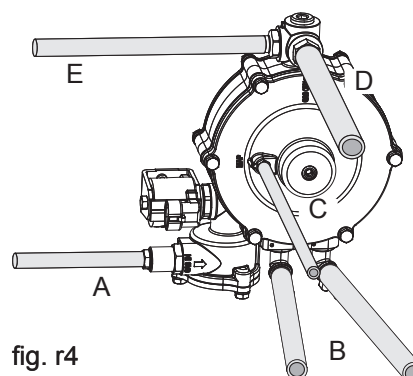

fig. r4
- the following components must be connected in series to the regulator gas outlet ("D" in fig. r4): the filter (optional), the pressure/temperature sensor and the gas metering unit. Care must be taken to ensure that there are no kinks or swollen sections kinks in the pipes/hoses;